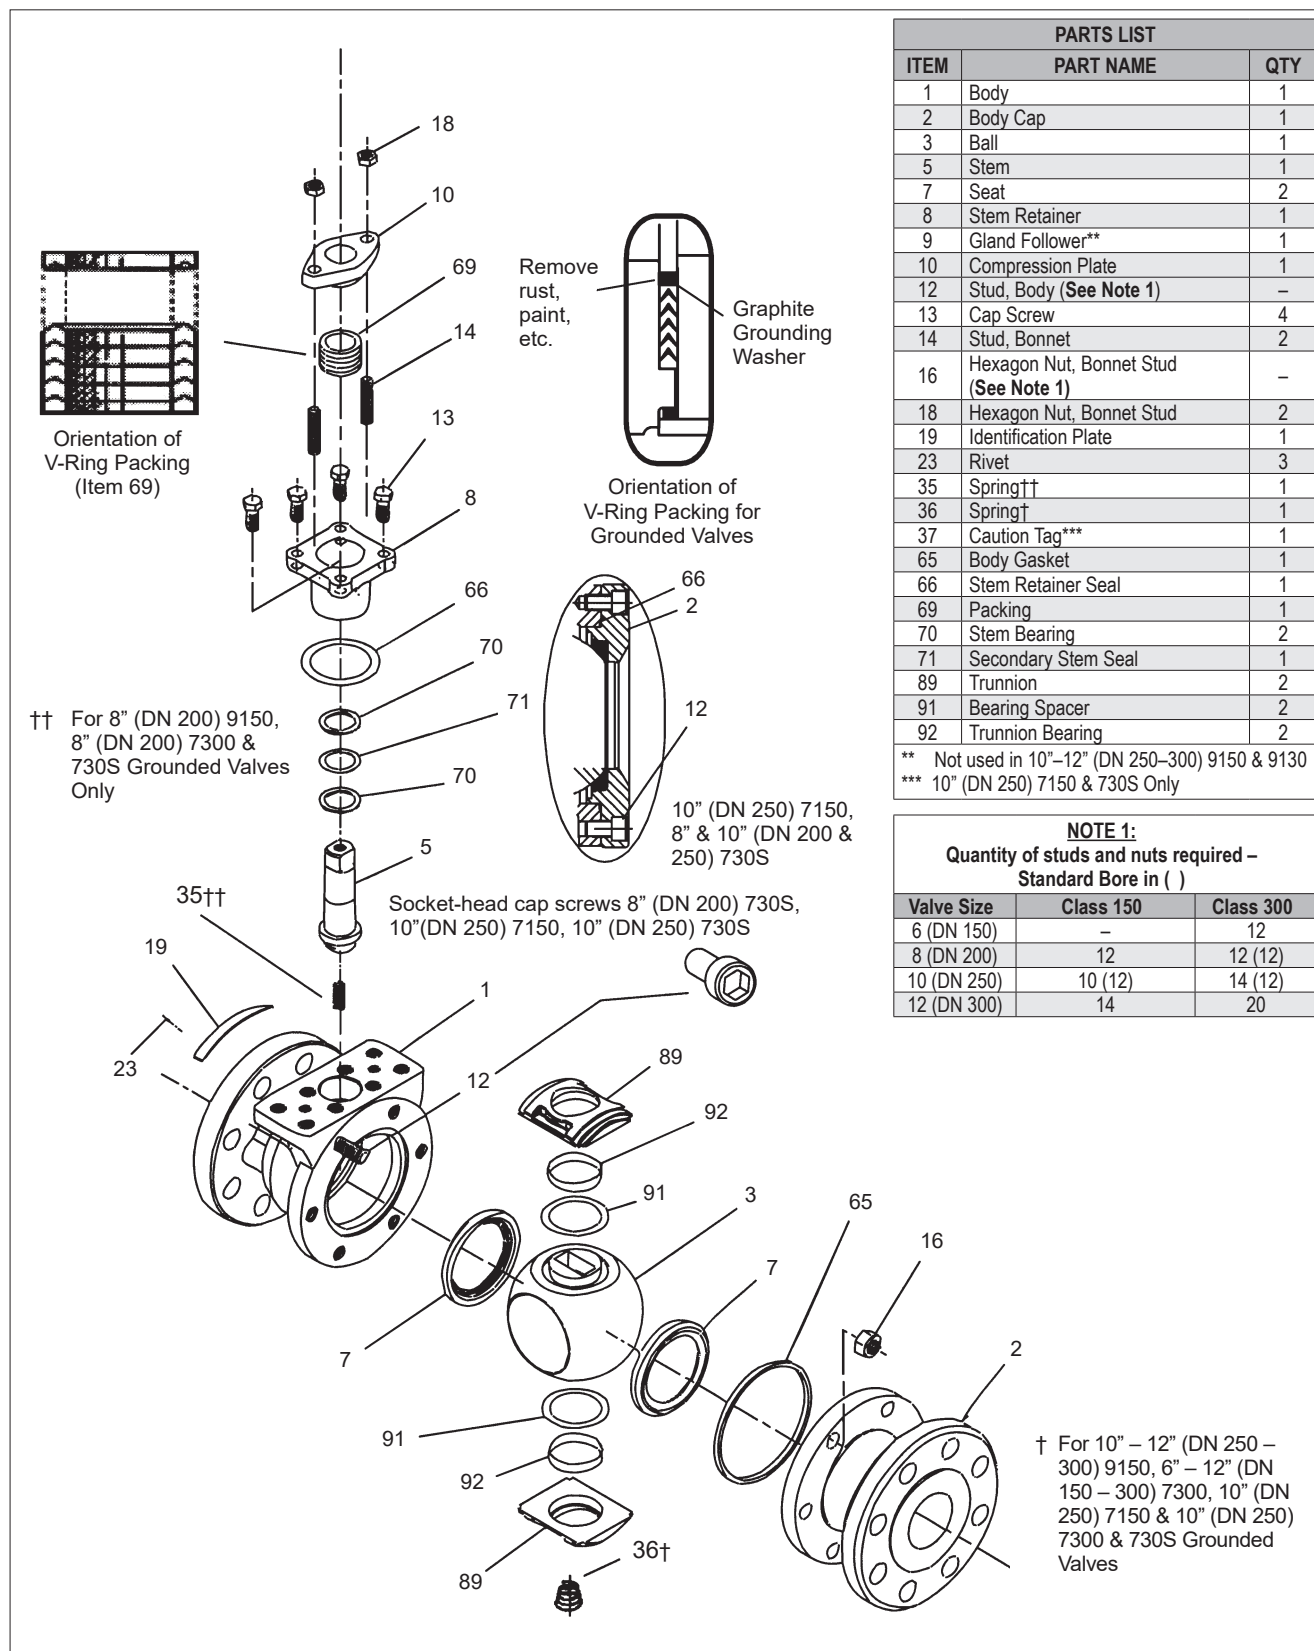
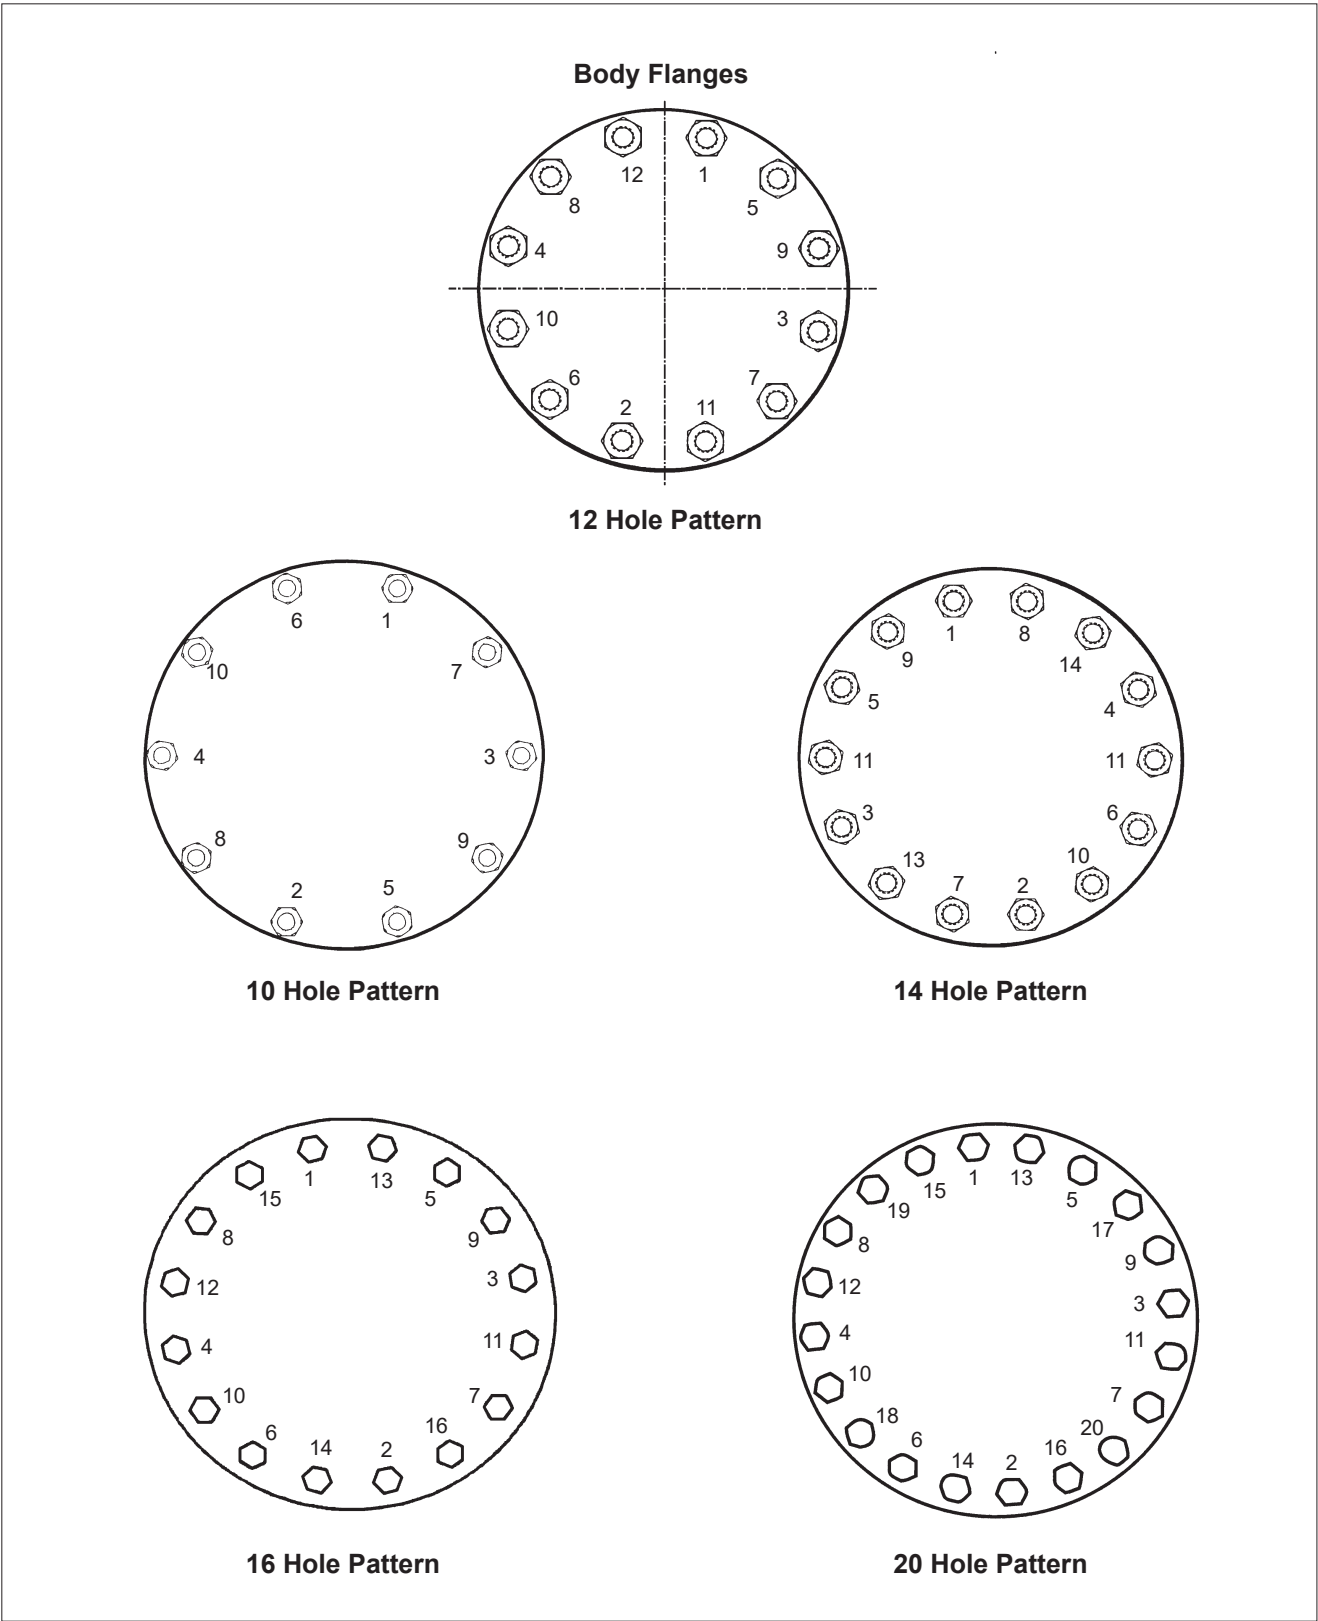

Figure 9.
Figure 10.
- c. From **Figure 9**, the ballooned part number, part name and quantity required.
15. With a wire brush, clean studs (14) and stud nuts (18) of foreign material, such as paint, thread locker, grime and commodity. Inspect the threads for damage or defects with appropriate ring or plug gauge. Repair any out-of-tolerance threads, or replace in-kind. Check that nut can be run up and down entire usable portion of the threads. See **Figure 9**.
16. Place compression plate (10) over stem (5) and studs (14).
17. Place a stud nut (18) on each stud (14) and tighten "finger tight".
18. Gently place the body seal (65) into the machined recess of the body (1).
19. With a wire brush, clean body studs or socket head cap screws (12) and body stud nuts (16) of foreign material, such as paint, thread locker, grime and commodity. Inspect the threads for damage or defects with appropriate ring or plug gauge. Repair any out-of-tolerance threads, or replace in-kind. Check that nut can be run up and down entire usable portion of the threads. See **Figure 9**.
20. Place the body cap (2) over body studs (12) being careful to properly orient body cap and body as originally assembled by matching orientation marks made prior to disassembly. Take care not to damage body seal (65) or the cap seat (7) during this operation.
21. Lubricate the threads and face of nuts (16) with NeverSeez® or equivalent. Install nuts (16) on body studs (12) so that material identification marks will be visible after tightening. Tighten sequentially as shown in the diagram (**Figure 10**), to the recommended torques as shown in the torque chart (**Table 1**).
- From **Figure 9**, the ballooned part number, part name and quantity required.